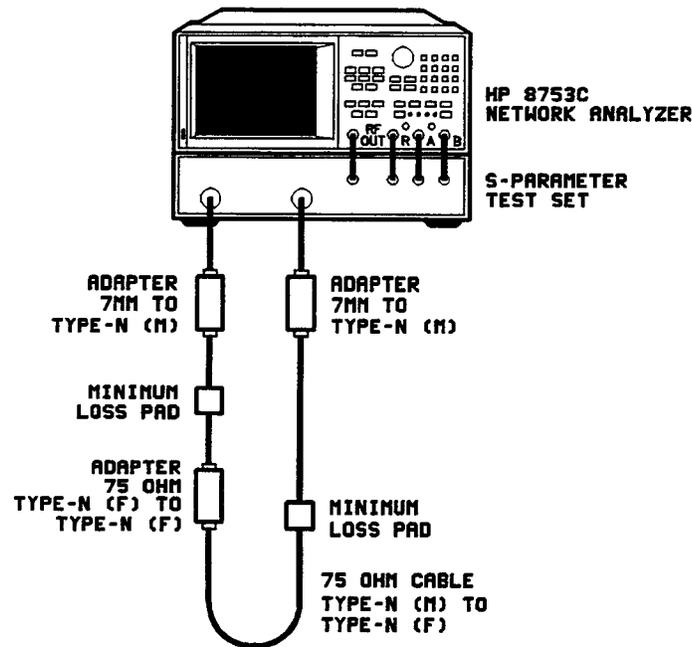

Figure 3-1. Equipment Setup for a Thru Measurement Calibration
1. Connect the equipment as shown in Figure 3-1.